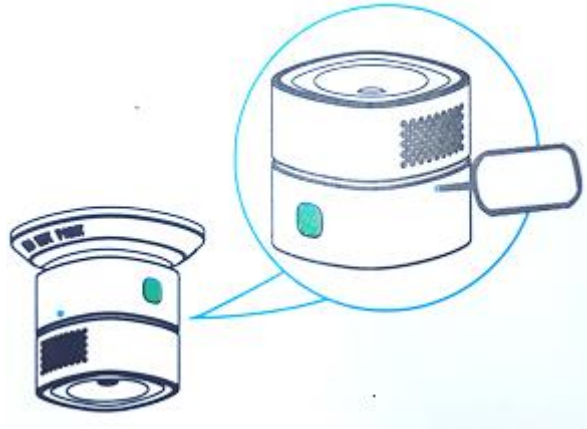

图1
- As shown in figure 1, the carbon monoxide detector has a reset button on the side, which features as following: